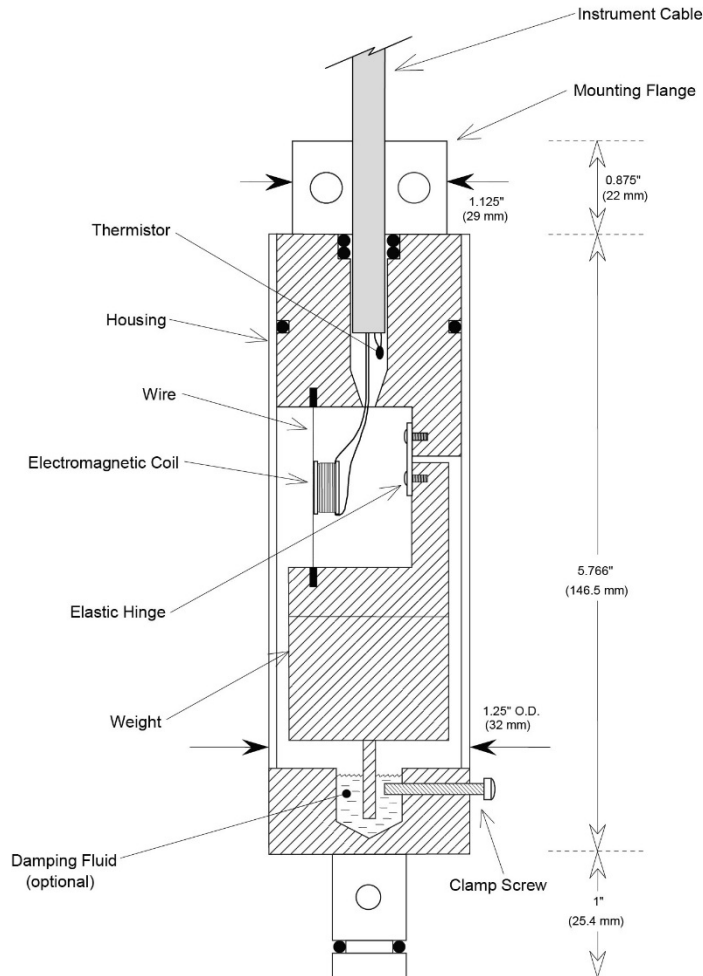

Figure 2 - Model 6350 Tilt Sensor
The sensor is comprised of a pendulous mass, which is supported by a vibrating wire strain gauge and an elastic hinge. See Figure 2. The strain gauge senses the changes in force caused by rotation of the center of gravity of the mass. The mass and sensor are enclosed in a waterproof housing, which includes components for connecting the sensor to the mounting bracket. The housing is constructed using stainless steel tubing to minimize the effects of corrosion. Biaxial systems use a mounting bracket to mount two transducers at 90° to each other. In environments subject to vibrations, a damping fluid can be used, as shown in the figure below.
The vibrating wire tilt sensor acts as a self-damping system when used in vibration free environments. When external ground or structural vibrations exceed a certain threshold, the pendulous mass will continue to “swing” and stable readings may not be possible. In such cases, additional damping can be achieved by adding a viscous damping fluid to a small reservoir contained in the sensor. A thin, wide “paddle” is connected to the mass and when the fluid is added the pendulum is damped by the action of the paddle in the damping fluid (see Figure 2).
- 1) Remove the clamp screw on the bottom side of the sensor (see Figure 2).